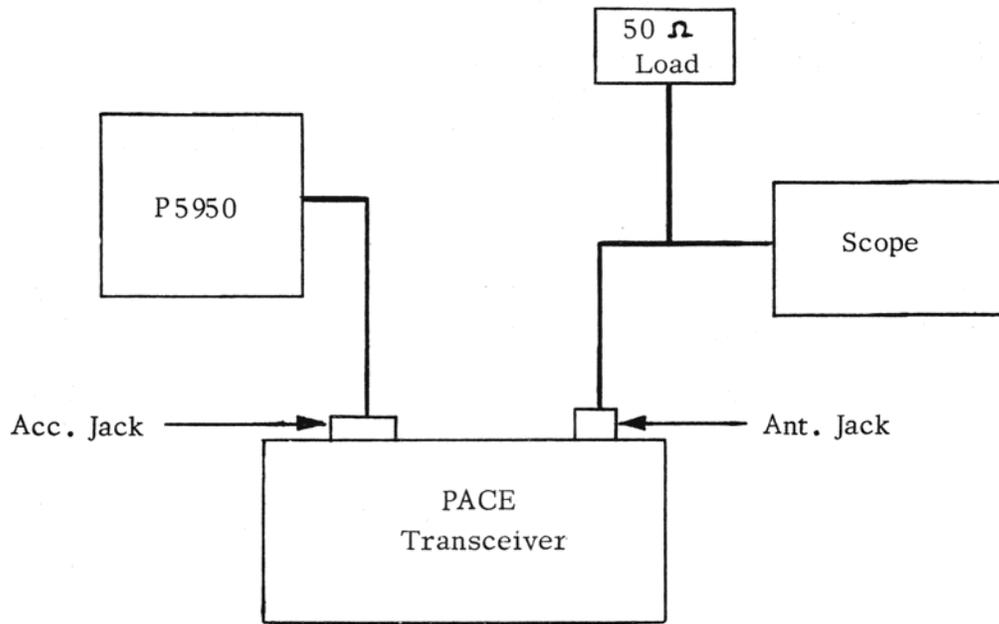

FIGURE 1
1. Equipment hookup as per Figure 1.